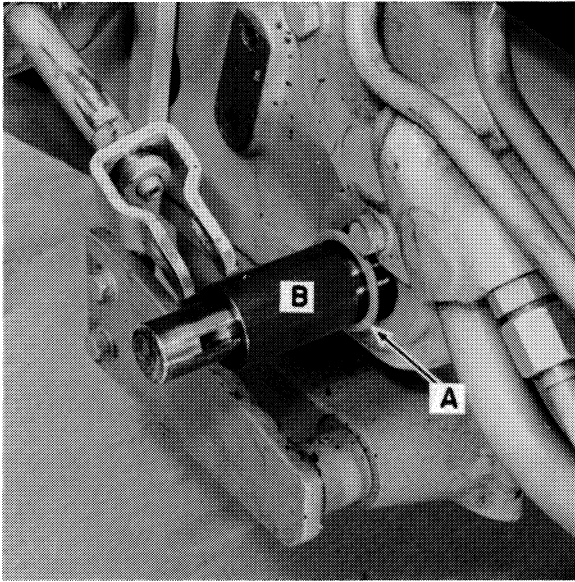

FIGURE 11-68
25. Install washer, A, Figure 11-68, that was removed at E, Figure 11-57.
26. Install new sleeve, B, Figure 11-55, onto the shaft at, B, Figure 11-68.